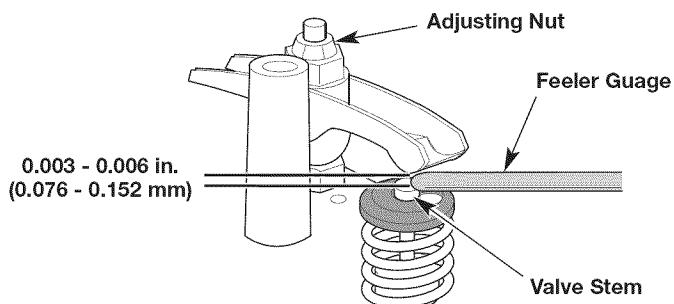

Fig. 26
8. Use a feeler gauge to measure the clearance between one of the valve stems and its corresponding rocker arm (Fig. 26). Repeat this process for the other valve stem and rocker arm. The recommended clearance is **0.003 – 0.006 in. (0.076 – 0.152 mm)**. Use a standard automotive **0.005 in. (0.127 mm)** feeler gauge. The feeler gauge should slide between the rocker arm and valve stem with a slight amount of resistance, without binding (Fig. 26).
- a. Turn the adjusting nut with a 5/16 inch (8 mm) wrench or nut driver (Fig. 26).